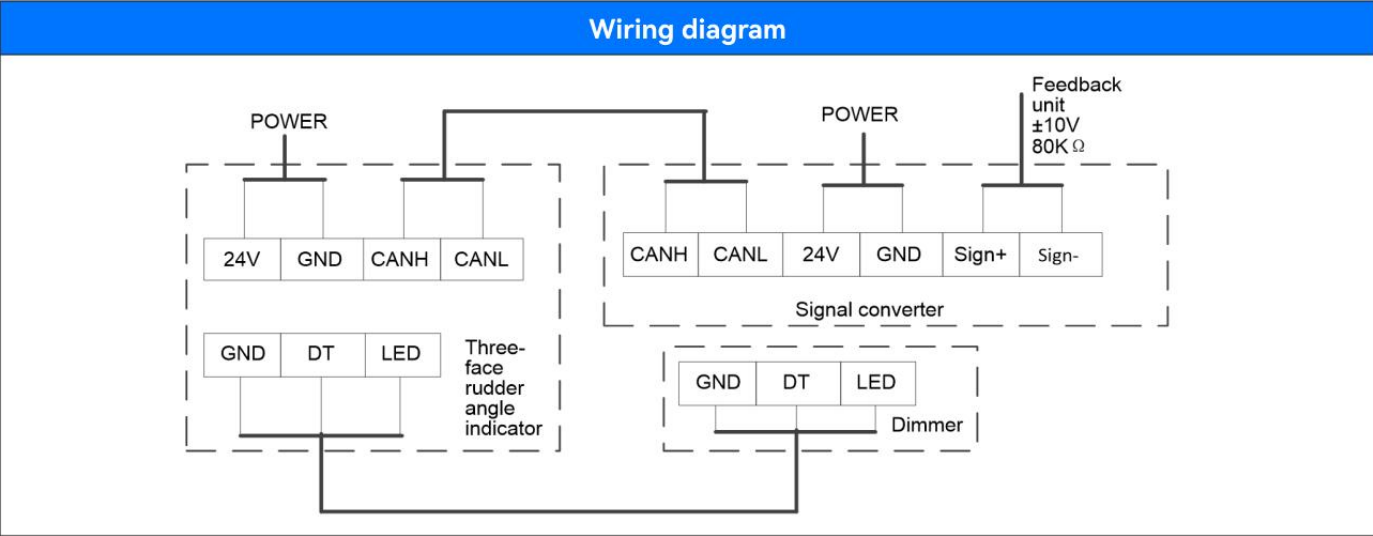

Figure 1.5
2. If the rudder Angle signal is of other specifications, the $\pm 10V$ signal input can be achieved through the signal conversion module, and the wiring is shown in Figure 1.5. For example, Scallop Technology's WDI-8AO rudder Angle distributor can output 8 channels of $\pm 10V$ rudder Angle signals.